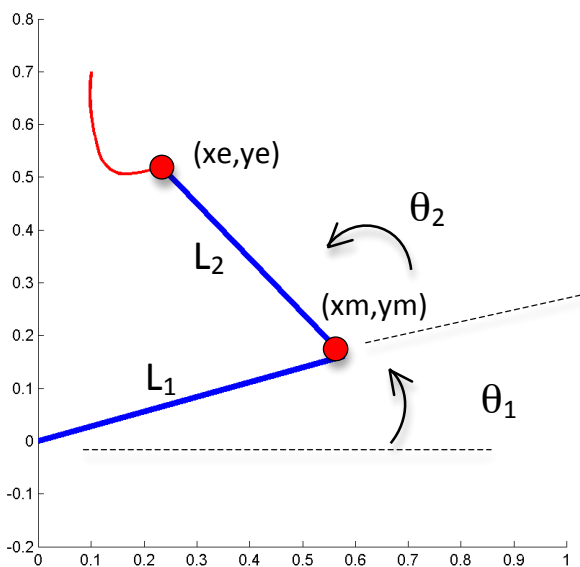

Figure 1: 2-link arm.
- Print-out of the final frame of your animation, showing the final position of the 2-link arm and the full end effector path. This will look similar to Fig. 1, below, except that you should see a full word written out in script, and the arm will be in a different location.
This mat-file contains two variables, th1 and th2. These are the absolute angle of the first link (th1), measured counterclockwise from the positive x axis, and the relative angle of the second link (th2), measured counterclockwise with respect to the first link’s angle (see Fig. 1). Write a MATLAB m-file function that takes th1 and th2 as inputs and animates the motion of the 2-link arm over time. Draw both the actual arm and the path of its end effector, as shown in Fig. 1.
- Be sure the axes have a 1:1 ratio and that they are fixed over time. For the prelab, use `axis([0 1 -0.2 .8])`, as shown in Fig. 1. The command “axis image” forces the x and y axes to use the same scaling, so the aspect ratio in your drawing is not distorted.
3. Include a print-out of the final frame of your animation in your prelab. It should look similar to Figure 1, except that the full end effector path should spell a word in cursive handwriting.
4. Consider the region $0 \leq x \leq 1$ and $-0.2 \leq y \leq 0.8$ (i.e., the 1x1 square shown in Figure 1). Sketch (by hand or with MATLAB) the reachable workspace within this unit square for the arm’s end effector. What fraction of the 1 x 1 square can the end effector reach? (MATLAB will be useful for calculating or estimating areas. Try to estimate to within 2 sig figs.)